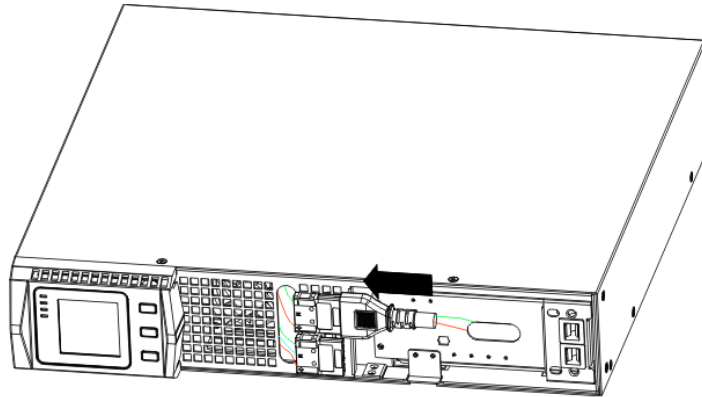

Figure 8 Connecting the UPS Internal Batteries
2. Connect the internal battery connector (see Figure8)